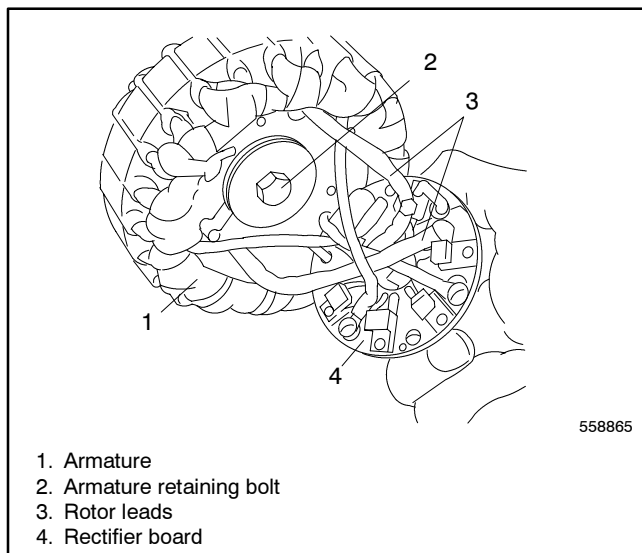

Figure 9-4 Armature Removal
13. Remove the armature from the shaft, guiding rotor leads through the armature bores. See Figure 9-4.